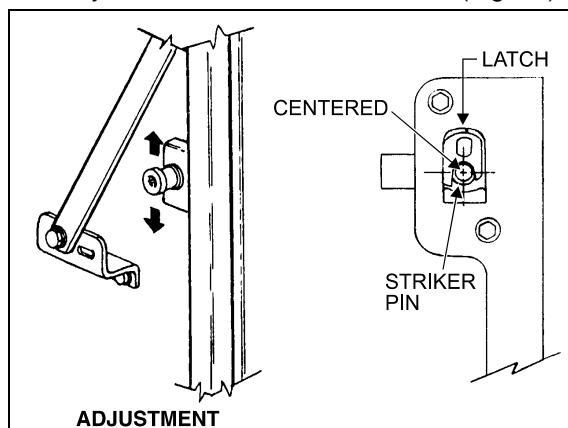

FIGURE 50: BAGGAGE COMPARTMENT DOOR 18068
5. Install both striker pins, bring the door close to them, and adjust the height of pins so they are well centered with latches (Fig. 50).